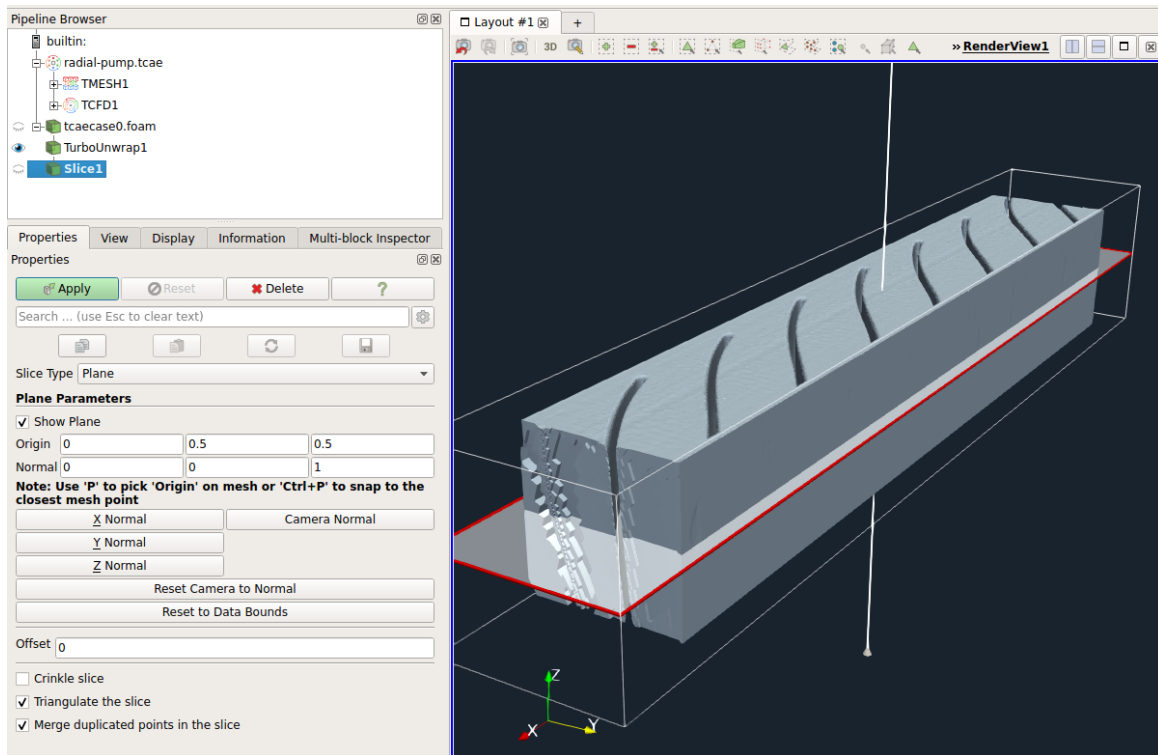

Figure 16.18: Turbo Blade Post – Construction of the blade-to-blade view using *Slice* filter from the rotor block unwrapped by Turbo Unwrap.
Step 8 — Now all that is necessary to obtain a specific **blade-to-blade view** is to use a standard *Slice* filter (z -normal) to cut through the block at the requested height. The coordinate $z = 0$ corresponds to the hub patch, $z = 1$ corresponds to the shroud patch, $z = 0.5$ corresponds to the surface in the middle between hub and shroud etc. This step is shown in the Fig. 16.18, the resulting cut displaying pressure is the Fig. 16.12, or showing the *SurfaceLIC* representation (with settings from 16.20) in the Fig. 16.19.